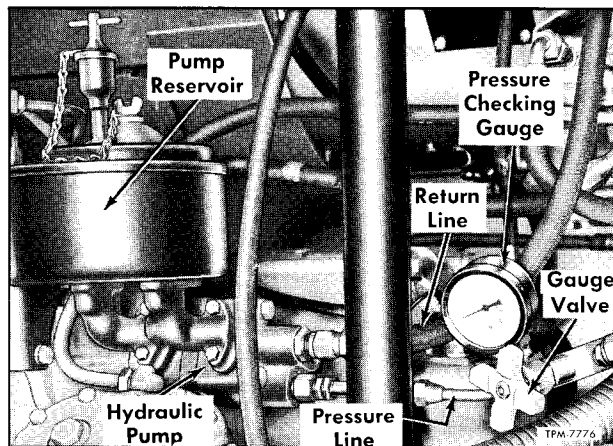

Figure 5—Checking Pump Hydraulic Pressure (Typical)
2. Connect 0 to 1000 psi pressure checking gauge (J-5631-01) (fig. 5) between the pump pressure port and pressure hose. Leave valve in pressure gauge open.